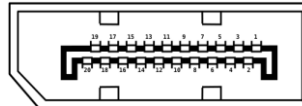
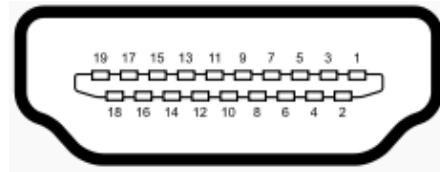

Figure 3-30: DP Connector
Figure 3-31: HDMI Connectors
- CN Location:** See Figure 3-30, Figure 3-31